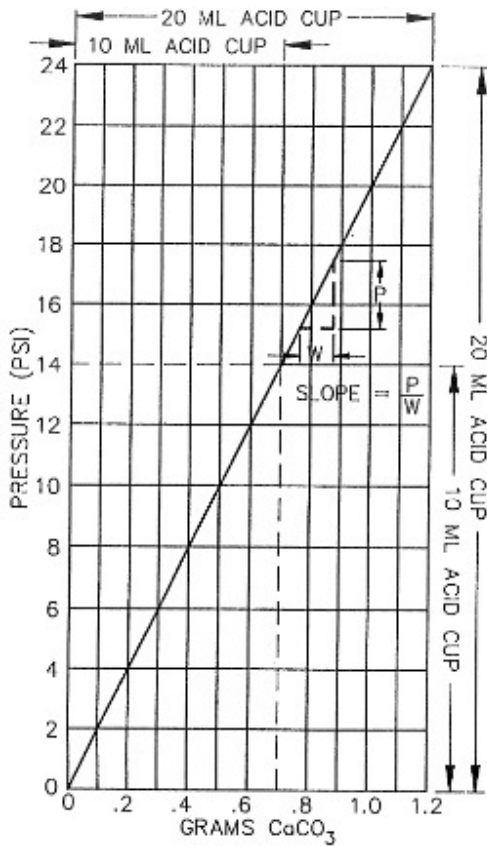

Fig. 4
The calcium carbonate and magnesium carbonate are reacted with 10 percent Hydrochloric Acid to form CO2. This is done in a sealed reaction cell and the pressure build up due to the CO2 is measured using either a pressure gauge or a pressure recorder. The use of a Calibration Curve, Fig. 4, determined through the use of pure Calcium Carbonate reagent allows the pressure developed to be related to the weight of calcium carbonate in the calibration sample. Several weights of sample are suggested to assure an accurate curve. These tests can be conducted using either the pressure gauge or recorder with the reaction cell. The sample can be weighed on a portable balance (10 mg Precision or better). Refer to Section 5 for calibration procedure.
Before testing, make sure the equipment is clean. Verify that a calibration curve is available for the particular equipment to be used. Should a calibration curve not be available, follow the procedures outlined in Section 5 to construct one. For an illustration of this curve Refer to Fig. 4.
Before testing, make sure the equipment is clean. Refer to Section 5 to verify that a calibration curve is available for the equipment to be used, and that the equipment uses a 20 ml acid cup. Should a calibration curve not be available, follow the procedures outlined in Section 5 to construct one using the 7 point plot. This ASTM test specifies the use of a 1.00 gm test specimen. For an illustration of the 7 point plot Refer to Fig. 4.
E. Plot grams of CaCO3 for each sample verses final pressure reading for each sample on linear graph paper. Draw a straight line averaged through these points. A sample graph for the four point plot and the addition for the 7 point graph is shown in Fig. 4. Larger samples of CaCO3 cannot be reacted using the 10 ml acid cup.
F. Note the linear relation between the pressure and sample size, therefore this curve may be assumed to be a straight line, and its slope will be a constant. As illustrated in Fig. 4 the slope of the curve is 2 psig / .1 gm CaCO3, or 20 psig / 1.0 gm sample, resulting in a slope of 20. Therefore the Calibration Factor in this case is 1/20 = .05 x 100 or 5. This number is the slope or average slope for the particular equipment calibrated. It is a function of the volume of the reaction cell. As shown by equations [5] and [6] below the slope can be written as a "Cell Factor" to multiply the pressure reading by to directly obtain percentages of Calcium Carbonate and Dolomite.